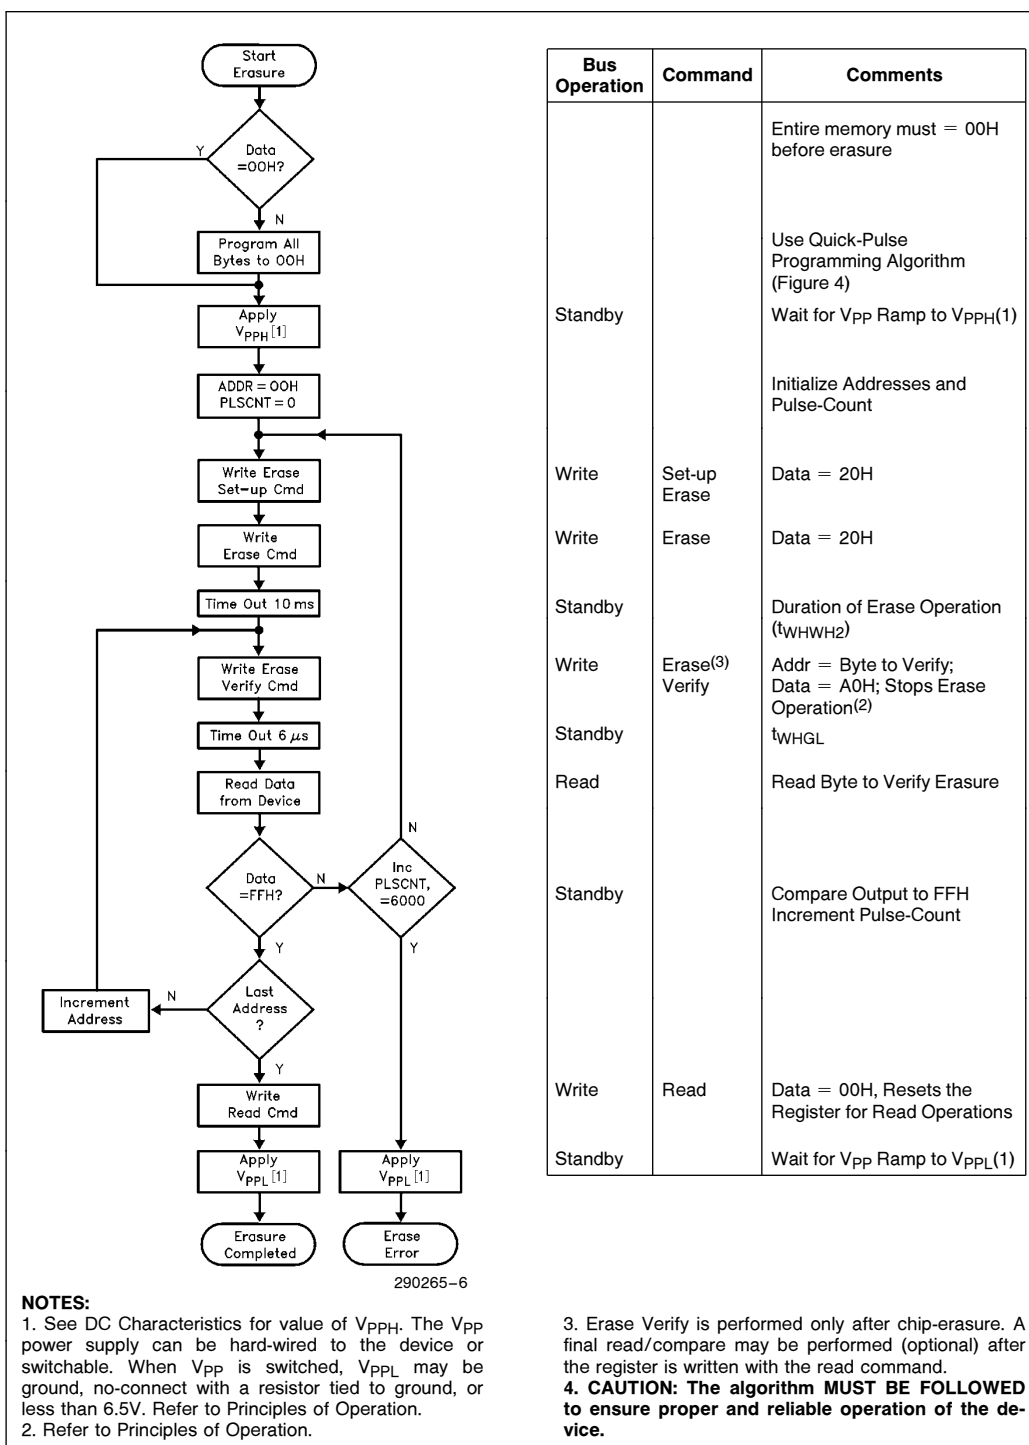

Figure 5. 28F512 Quick-Erase Algorithm
- Figure 5 illustrates the Quick-Erase algorithm.
In the case where the data read is not FFH, another erase operation is performed. (Refer to Set-up Erase/Erase). Verification then resumes from the address of the last-verified byte. Once all bytes in the array have been verified, the erase step is complete. The device can be programmed. At this point, the verify operation is terminated by writing a valid command (e.g. Program Set-up) to the command register. Figure 5, the Quick-Erase algorithm, illustrates how commands and bus operations are combined to perform electrical erasure of the 28F512. Refer to A.C. Erase Characteristics and Waveforms for specific timing parameters.
Erase execution then continues with an initial erase operation. Erase verification (data = FFH) begins at address 0000H and continues through the array to the last address, or until data other than FFH is encountered. With each erase operation, an increasing number of bytes verify to the erased state. Erase efficiency may be improved by storing the address of the last byte verified in a register. Following the next erase operation, verification starts at that stored address location. Erasure typically occurs in one second. Figure 5 illustrates the Quick-Erase algorithm.